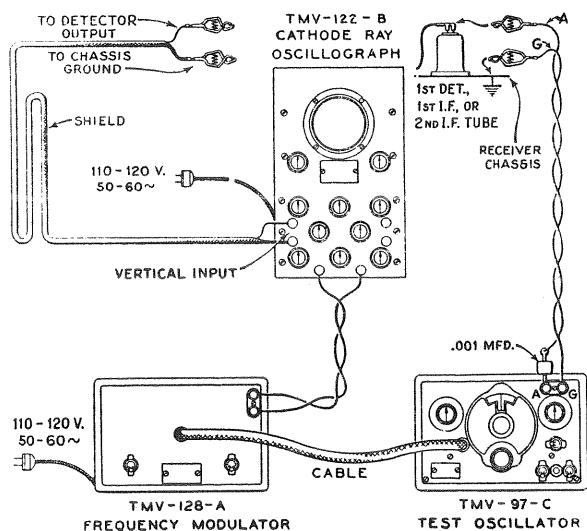
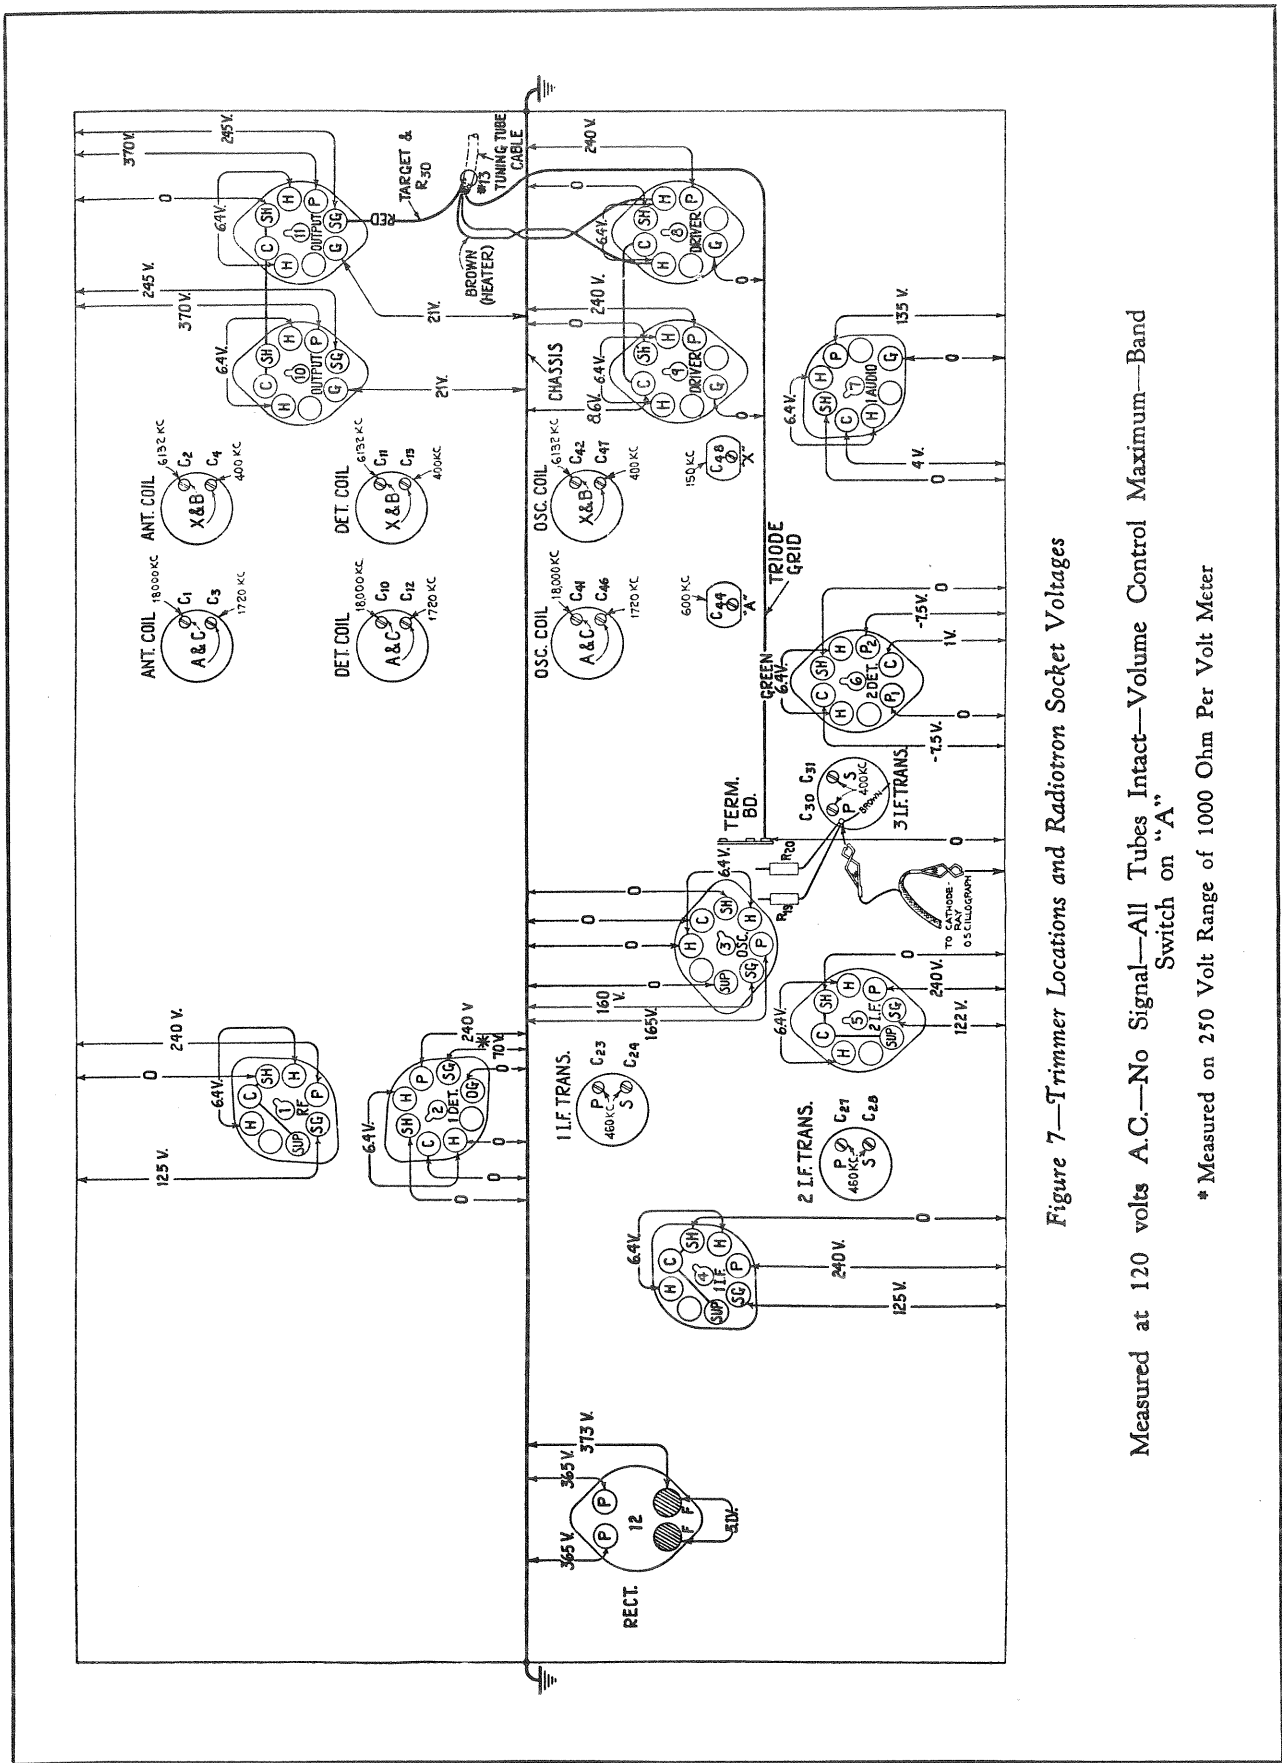

Figure 6—Alignment Apparatus Connections
Figure 7—Trimmer Locations and Radiotron Socket Voltages
Six trimmers are associated with the three i-f transformers. Their locations on the chassis are shown by Figure 7. Each must be aligned to a basic frequency of 460 kc. The last i-f transformer should be adjusted first, the one preceding it second and the operation carried through successive stages until the first transformer has been aligned. For such a process, it is necessary to feed the output of the Full Range Oscillator to the stages in their order of alignment, adjusting the trimmers of each and observing the effect at the second detector output on the Cathode-Ray Oscillograph. The most convenient point for connection of the Oscillograph is at the detector diode load circuit, with the vertical "Hi" terminal attached to the juncture of R-17, R-18 and R-19, and the "Gnd" to the chassis. The "Ext. Sync." terminals of the Oscillograph should be connected to the Frequency Modulator as illustrated in Figure 6. A .001 mfd. capacitor installed in series with the Oscillator "Ant." output lead will prevent the voltage constants of the stage being aligned from becoming upset. Proceed further as follows:—
- (c) The Frequency Modulator should then be placed in operation and interconnected with the Full Range Oscillator by means of the shielded patch cord provided. Figure 6 shows the proper arrangement. Set the Frequency Modulator sweep range switch to its "Lo" position and turn the Oscillator modulation switch to "Off". Change the timing (Sync.) control of the Oscillograph to "Ext." and place the range switch to its No. 2 position. Then shift the tuning of the Oscillator so as to increase its frequency, until two distinct and similar waves appear on the Oscillograph screen and become coincident at their highest points. These curves will be found to occur at an Oscillator setting of approximately 540 kc. They will be identical in shape but appearing in reversed positions. Adjust the frequency control of the Oscillograph in order to cause the waves to conform with these requirements and to make them remain motionless on the screen. This will require a setting of approximately  $\frac{1}{2}$  clockwise rotation of the frequency control. The trimmers C-30 and C-31 should then be re-adjusted so that the two curves move together and become exactly coincident throughout their lengths, maintaining the maximum amplitude at which this condition can be brought about.
ing manufacture, hence no alignment will be necessary in this range. Locations of the various antenna, detector and oscillator trimmers are shown on Figure 7. The test Oscillator should be removed from connection with the i-f system and its output attached to the antenna-ground terminals of the receiver. No changes are to be made in the attachment of the Oscillograph at the second detector. During the adjustments, the Oscillator output should be regulated as often as is necessary to keep the oscillographic image as low as is practically observable. Such procedure will obviate apparent broadness of tuning which would result from a.v.c. action on a stronger signal. The sequence of alignment should be Band A, Band X, Band B and Band C. Proceed with the adjustments as follows:—
- (a) With the receiver range switch on its Band A position, tune the station selector until the dial pointer is at a reading of 1720 kc. Adjust the Oscillator to 1720 kc. (modulation "On" and Frequency Modulator disconnected) and increase its output to produce a registration on the Oscillograph. Carefully align the oscillator, detector and antenna trimmers, C-46, C-12 and C-3 respectively, so that each brings about maximum amplitude of output as shown by the wave on the Oscillograph. It will be necessary to have the timing control of the Oscillograph on "Int." for this operation. Then shift the timing control to "Ext." and place the Frequency Modulator into operation with its connections to the Oscillator and Oscillograph as shown on Figure 6. Retune the test Oscillator (increase frequency) until the forward and reverse waves show on the Oscillograph and become coincident at their highest points. Adjust the trimmers C-46, C-12 and C-3 again, setting each to the point which produces the best coincidence and maximum amplitude of the images.
The voltage values indicated from the Radiotron socket contacts to ground on Figure 7 will serve to assist in locating causes for faulty operation when existent. Each value as specified should hold within  $\pm 20\%$  when the receiver is normally operative at the rated supply voltage. Variations in excess of this limit will usually be indicative of trouble in the basic circuits. The voltages given on the diagram are actual operating values and do not allow for inaccuracies which may be caused by the loading effect of a voltmeter's internal resistance. This resistance should be duly considered for all readings. The amount of circuit resistance shunting the meter during measurement will determine the accuracy to be obtained, the error increasing as the meter resistance is comparable to or less than the circuit resistance. For the majority of readings, a meter having an internal resistance of 1000 ohms per volt will be satisfactory when the range used for each check is chosen as high as possible consistent with good readability.